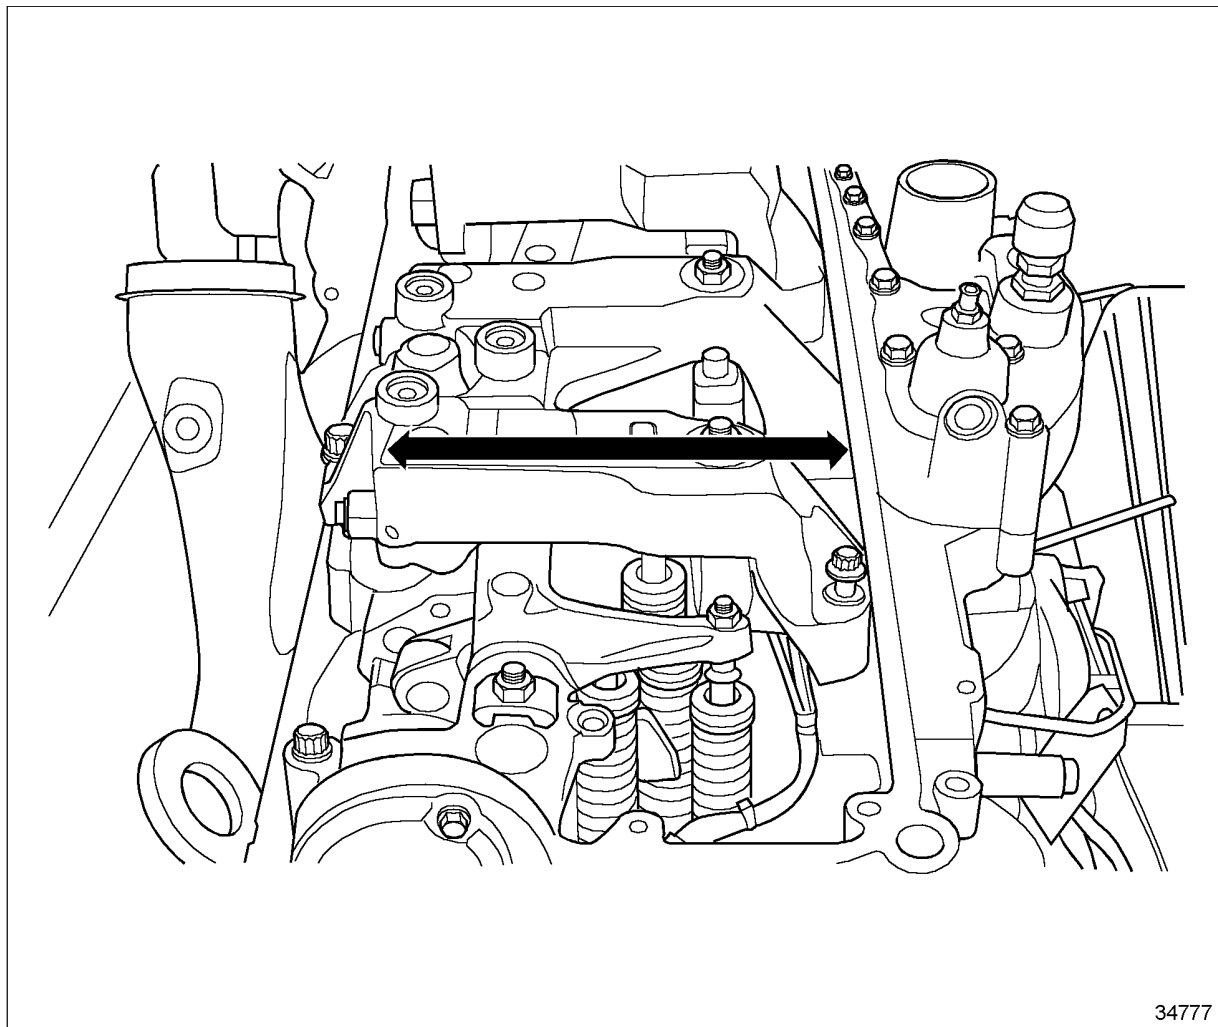

Figure 1-435 Locating Center Position of Housing
7. Move the housing from side to side. For models 750 and 750B locate the housing in the center position of the movement. For model 750A locate the housing as far towards the camshaft side of the engine as possible. See Figure 1-435.